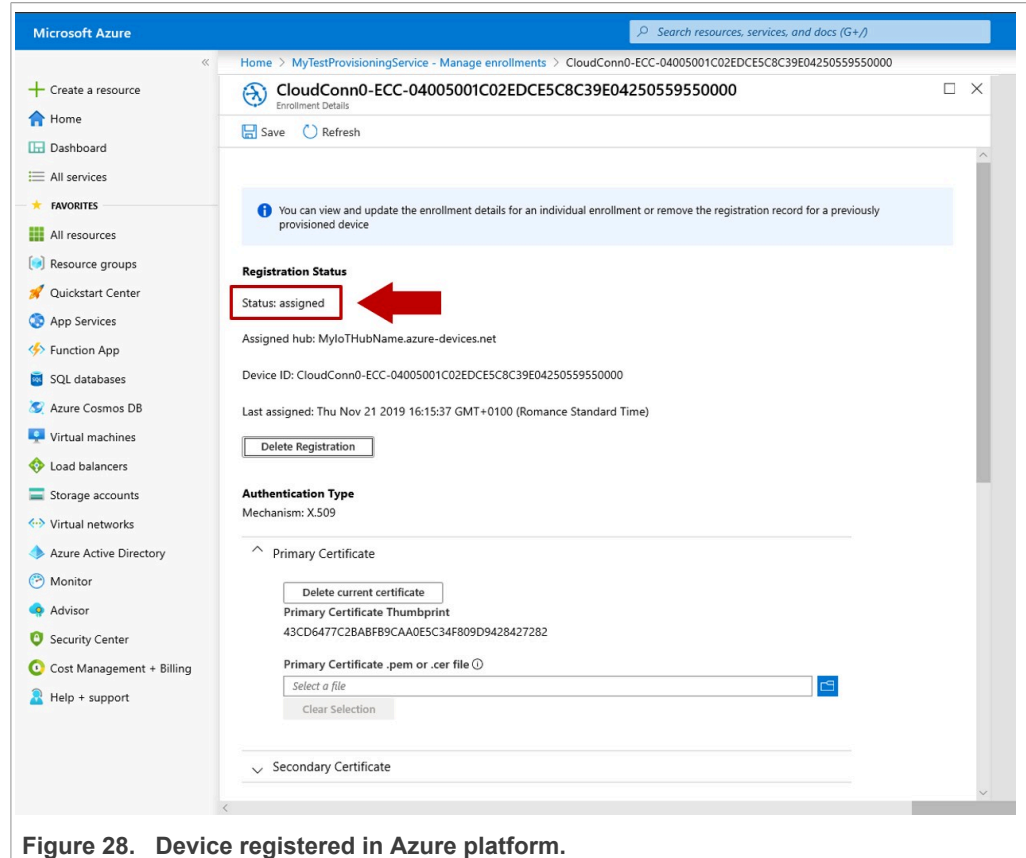

Figure 28. Device registered in Azure platform.
- The device registration can be verified in the **Manage enrollments** section of our IoT Hub Device Provisioning Service. The **Status** of the enrollment should be **Assigned** as shown in Figure 28